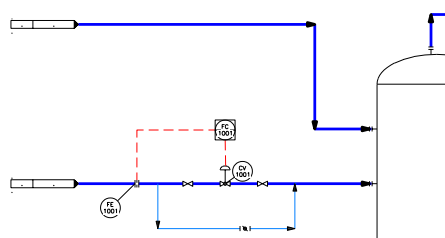

Figure 2-80 Off page connectors placed at the endpoints of the feed line and reflux line
3. Similarly, place off page connectors at the locations shown in Figures 2-80 and 2-81.